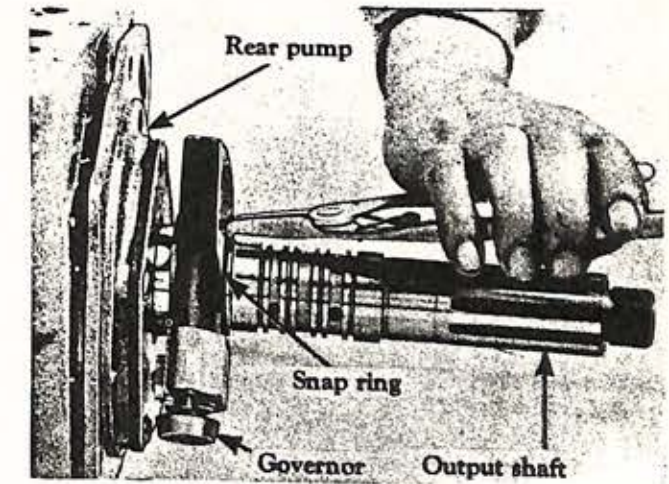

Fig. 47
1. Remove the governor snap ring from the output shaft (Fig. 47).